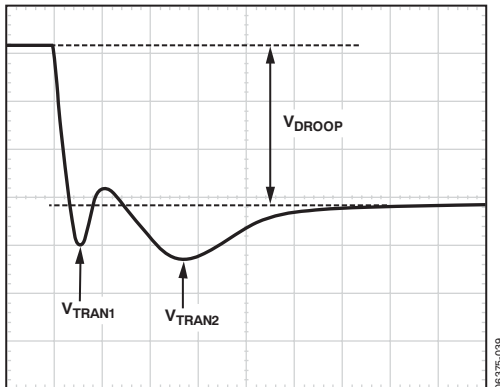

Figure 39. Transient Setting Waveform, Load Step
1. With the dynamic load set at its maximum step size, expand the scope time scale to $2 \mu\text{s}/\text{div}$ to $5 \mu\text{s}/\text{div}$. This results in a waveform that may have two overshoots and one minor undershoot before achieving the final desired value after V_{DROOP} (see Figure 39).